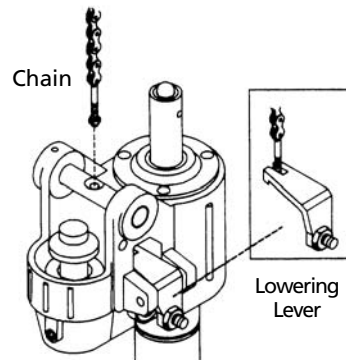

Figure 3 - Lowering Lever
5. Feed chain (included in handle assembly) through hole in handle shaft. Attach chain to lowering lever (See Figure 3).